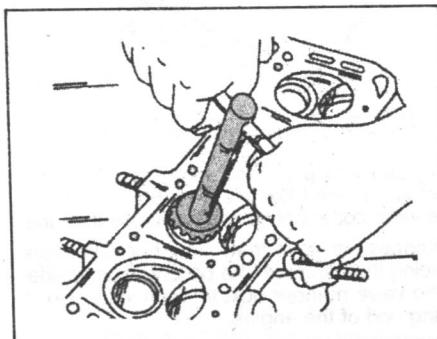

Fig. 1.52. — Re-cutting a valve seat. Rotate the cutter with even pressure.
**Valve Seats:** Valve seats may be re-cut to their original angle with the appropriate cutters, but note that a 45° cutter (exhaust valves) and a 60° cutter (inlet valves) are required. If this operation is carried out properly, there should be no need to grind-in the valves. Fig. 1.52 shows how such a cutter is employed. Use correction cutters to bring the valve seating area into the centre of the valve seat. Refer to the views of the valve seats on page 36 and the technical data for specific dimensions. Both the valve seat angles (90 or 120°)